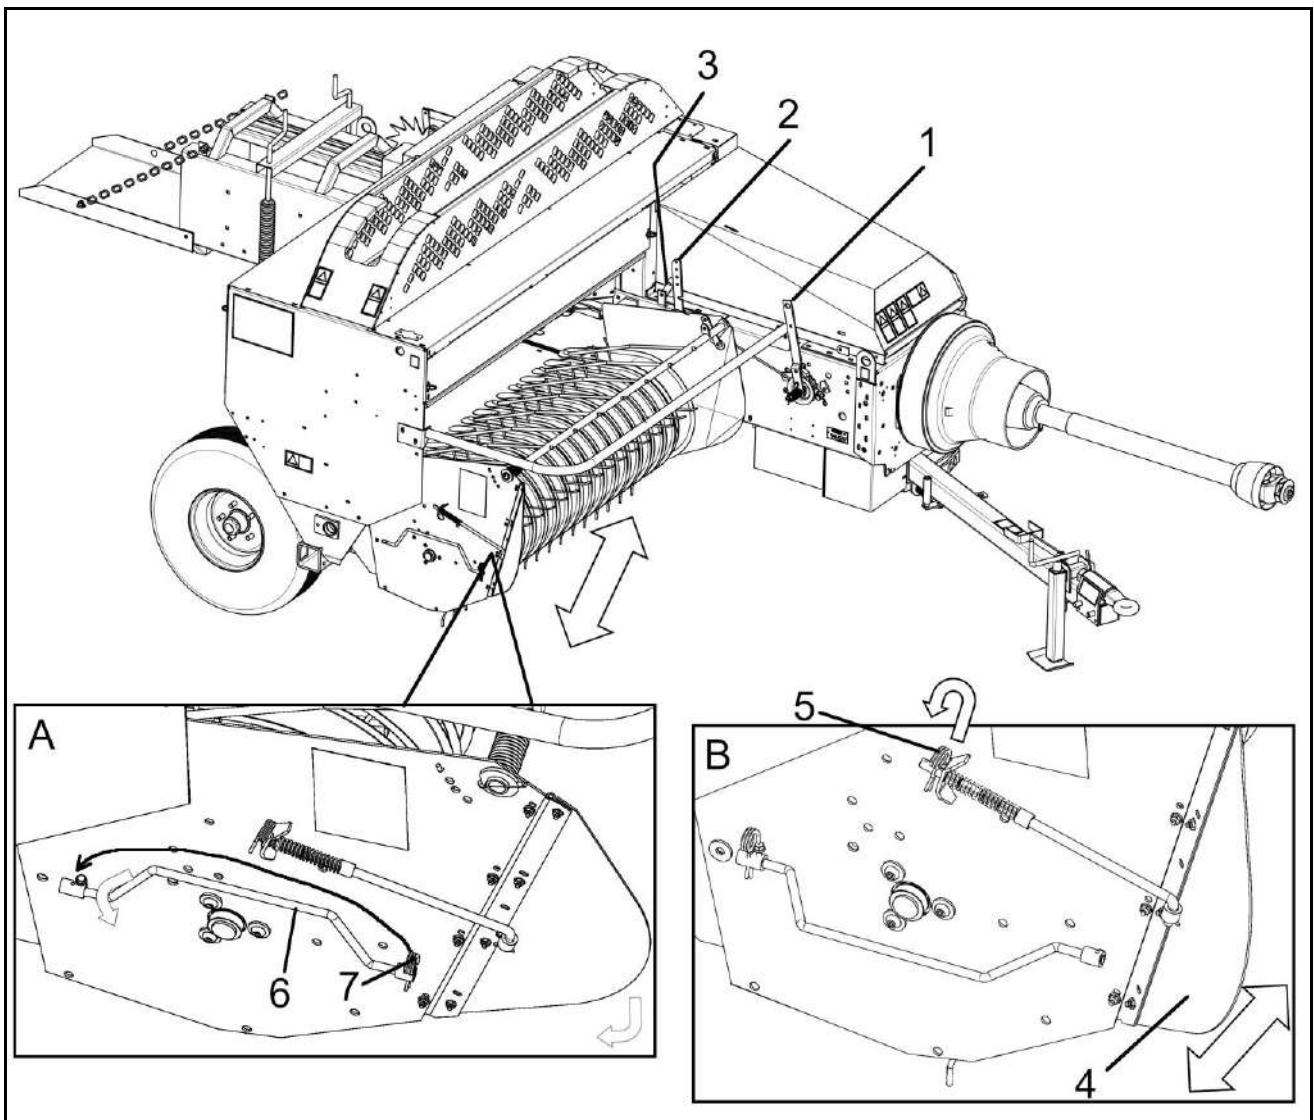

Fig. 7.27
- 1) Transport position: in this position it is possible to move the lever 2 (Fig. 7.27) forward and lock it in place with the retainer 3. This ensures that the pickup remains in the raised position during transport.
The complete pickup (in the working position) can be regulated up and down using the lever 1 (Fig. 7.27); the working position can be changed to adapt to the optimum collection conditions.
On the right side of the pickup there is the roll-bar 6 (Fig. 7.27), which is positioned as shown in ref. A, Fig. 7.27 for transport, and is positioned as shown in ref. B, Fig. 7.27 for working.